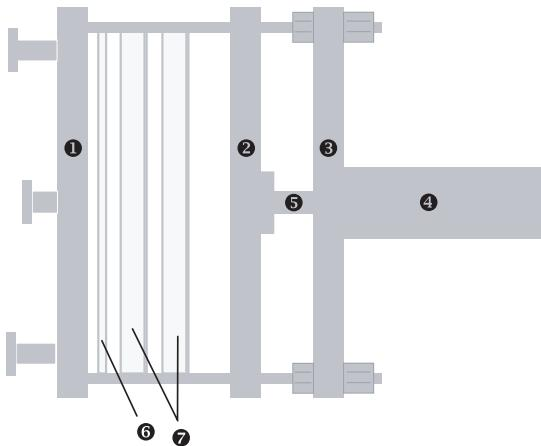

Fig 7. Top view of Kvick Flow holder showing assembly
- 1 Slide the back plate away from the manifold, compressing the hydraulic piston fully into the hydraulic cylinder (Figure 7).
- 2 Slide the back plate away from the manifold, compressing the hydraulic piston fully into the hydraulic cylinder (Fig 7).